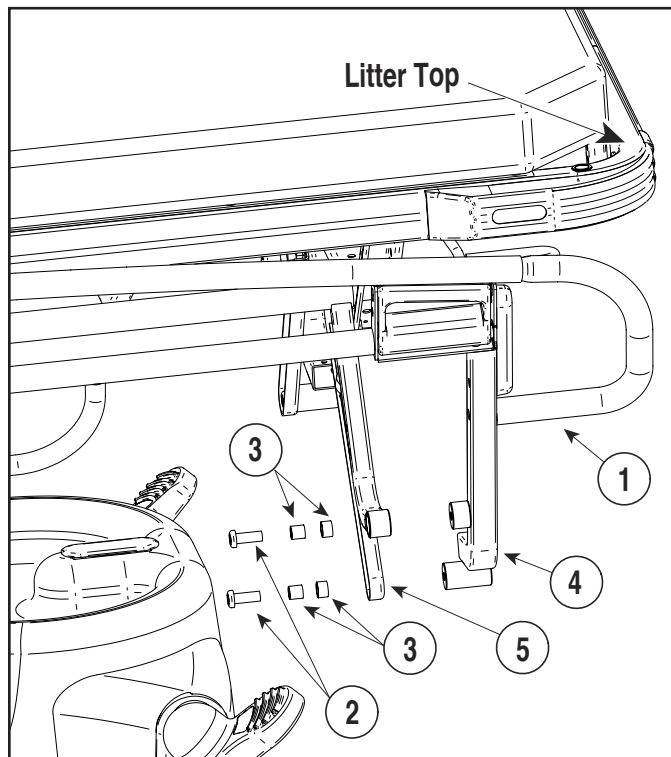

Figure 4-12. Siderail Removal / Installation
- (1) Lower siderail (1, Figure 4-12).
- (2) Remove four shoulder bolts (2) and bushings (3) from two upper links (4) and two lower links (5) and then remove siderail (1).